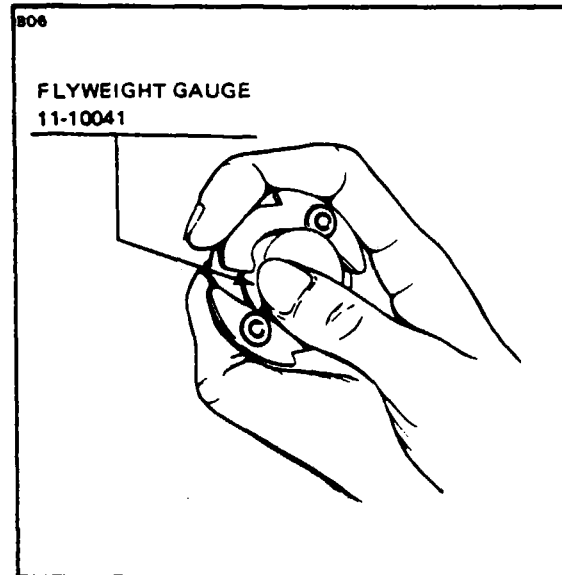

Figure 8-21. Checking Flyweight Radial Wear with Gauge
d. Inspect for axial wear between flyweight and axle using shank of a new No. 35 drill as a gauge. Hold flyweight so the outer radius is in alignment with the rim of the cam flange and try to insert the drill shank between the flange and flyweight as shown in Figure 8-21. Do not force the drill. If the drill can be inserted, replace the cam assembly.
e. Inspect for excess radial wear between the flyweight and axle using the 11-10041 flyweight gauge. Insert the gauge between flyweights and against cam hub as shown in Figure 8-21. If the gauge cannot be inserted easily, remove burr from edges of hub keyway with a small file. Hold the gauge firmly against the hub, at the same time squeezing the flyweights against the gauge. If the inner end of either flyweight heel touches the gauge, replace the cam assembly. If parts are near limits, check clearance between flyweight and gauge with a .003 inch feeler. If flyweight heel is tight on feeler, replace the cam assembly.